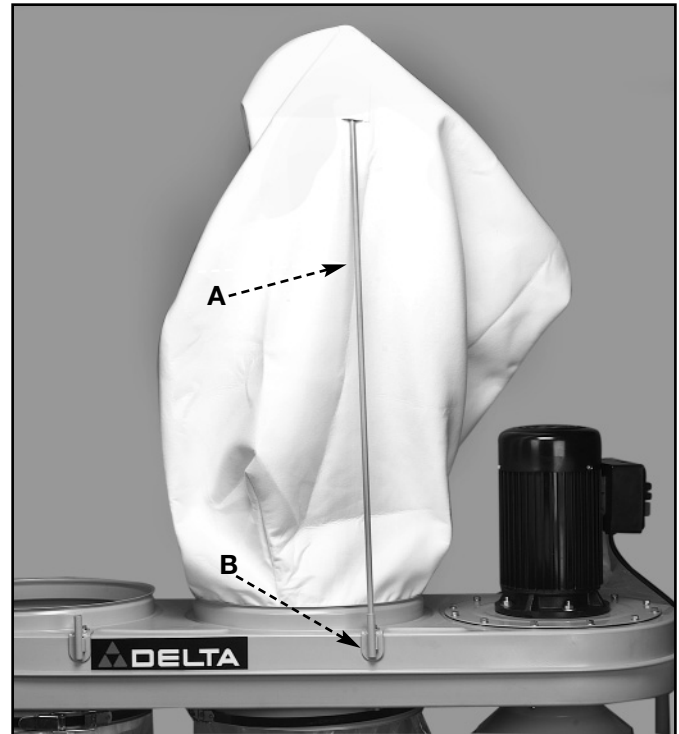

Fig. 12
4. Insert rod (A) Fig. 12 into pocket on filter bag.
5. Insert rod (A) into hole in bracket (B).